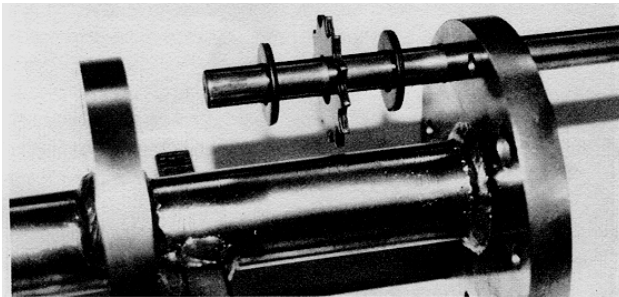

FIGURE 16
2) Install a spacer washer next to the outside side plate of the wide section. Next, install a flail. Follow with a spacer washer and continue the sequence until the section is full. FIGURE 16.